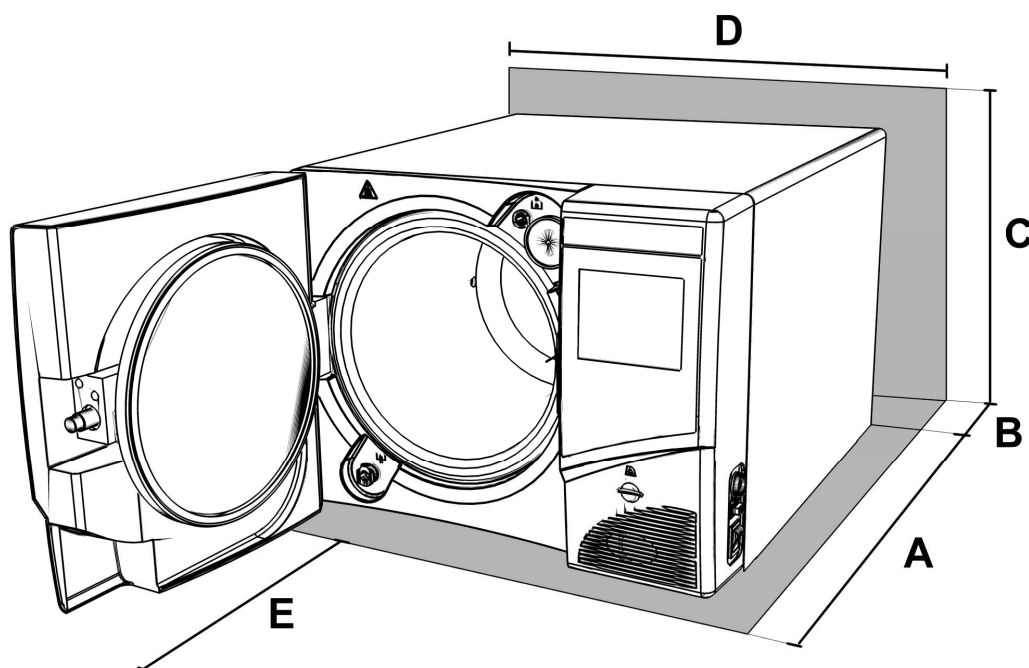

FIG.21
Take the power supply cord provided and insert the female plug (*FIG.21–pos.B*) in the socket of the back panel of the autoclave (*FIG.1– pos.5*) Then insert the male plug (*FIG.21–pos.A*) in the electric plug of the system.